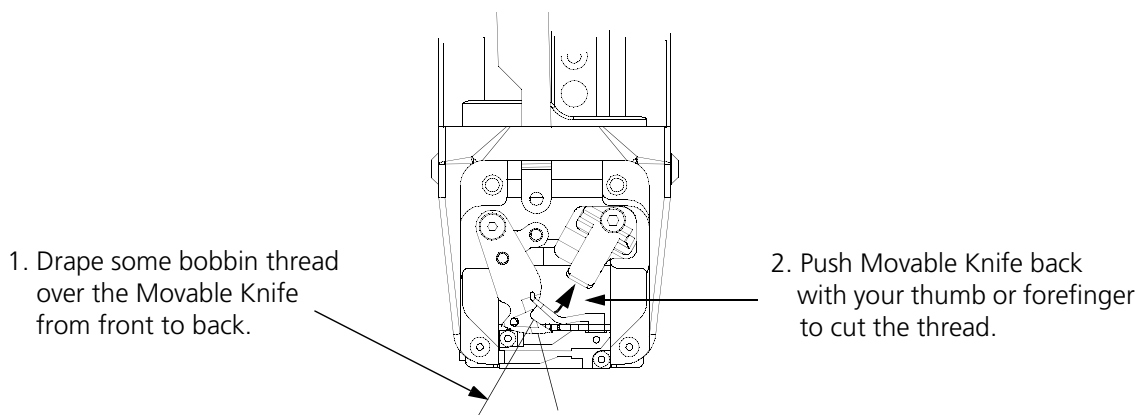

Figure 4-18
3. Leaving the bobbin case in the rotary hook, pull off some bobbin thread, and drape it over the movable knife as shown in Figure 4-18.
14. Obtain a piece of upper thread from the tensioner assembly and drape it over the movable knife (see Figure 4-18).